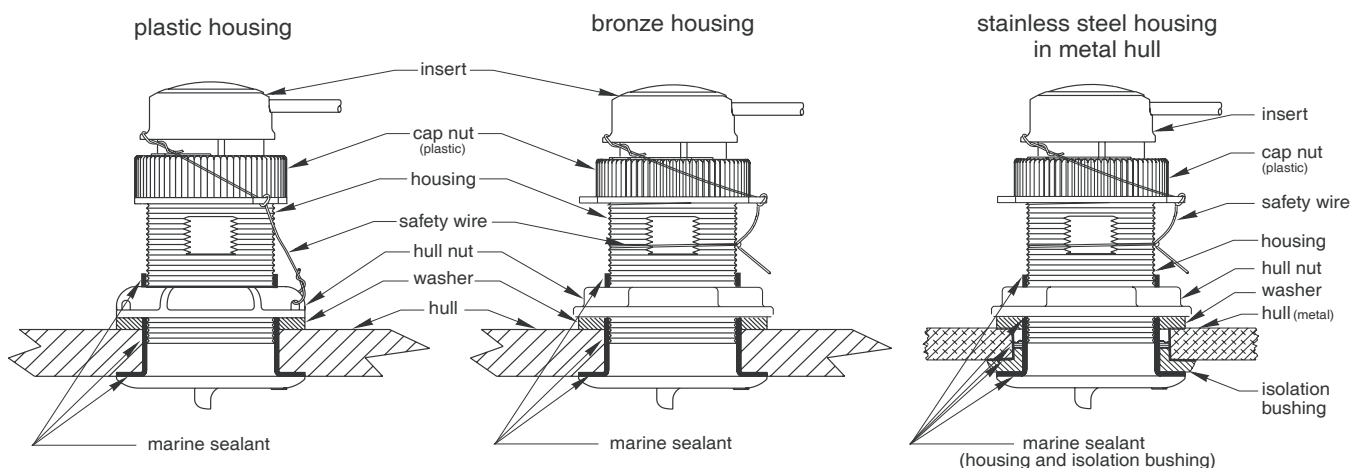

Figure 3 – Bedding and Installation
Apply a 2 mm (1/16") thick layer of marine sealant around the lip of the housing that contacts the hull and up the sidewall of the housing. The sealant *must* extend 6 mm (1/4") higher than the combined thickness of the hull, washer(s), and hull nut (see Figure 3). This will ensure there is sealant in the threads to seal the hull and hold the hull nut securely in place.
1. From outside the hull, push the housing into the mounting hole using a twisting motion to squeeze out excess sealant (see Figure 3). *Align the arrow on the lip of housing to point forward toward the bow.* If the DST100 is not installed on the centerline, angle the housing slightly toward the centerline to align it with the water flow.